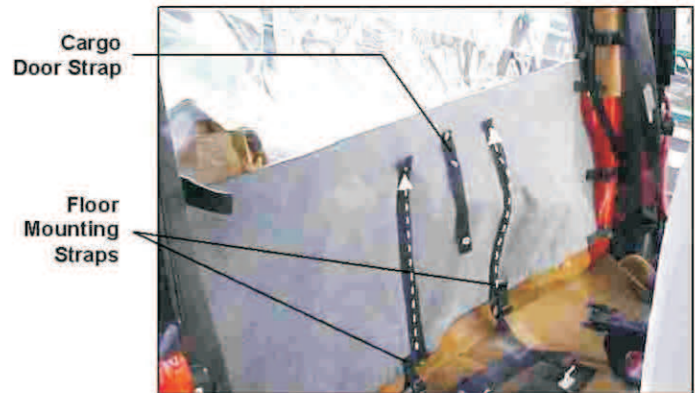

Figure 26
2. Un-zip the Cargo Door and roll up to the Cab Top Window Figure 26.